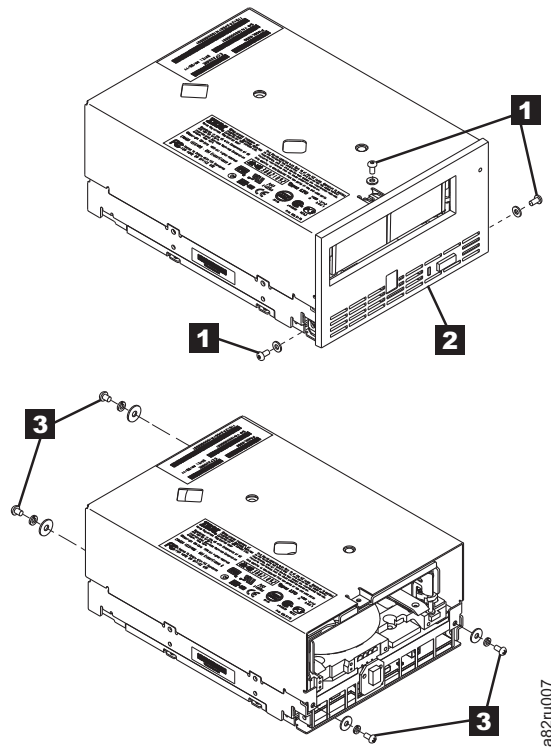

Figure A-1. Removing the cover from the internal drive
- a. Using a Phillips screwdriver, remove the three screws and washers (see **1** in Figure A-1) that secure the bezel **2** to the internal drive, then remove the bezel.